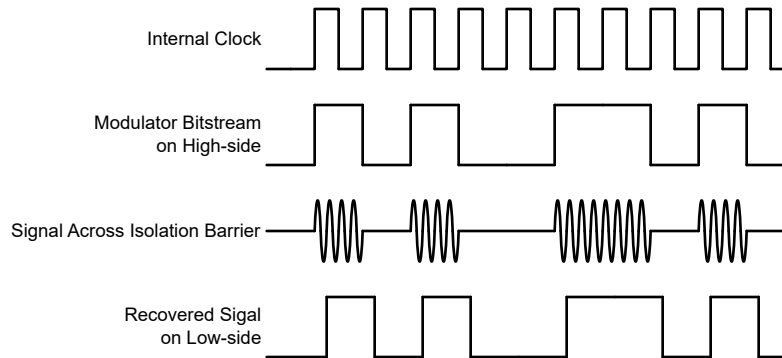

Figure 7-1. OOK-Based Modulation Scheme
As shown in Figure 7-1, the AMC0x30D-Q1 uses an on-off keying (OOK) modulation scheme to transmit the modulator output bitstream across the SiO₂-based isolation barrier. The transmit driver (TX) is illustrated in the Functional Block Diagram. TX transmits an internally generated, high-frequency carrier across the isolation barrier to represent a digital one. However, TX does not send a signal to represent a digital zero. The nominal frequency of the carrier used inside the AMC0x30D-Q1 is 480MHz.